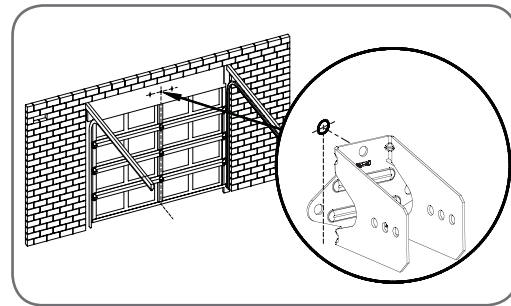

Fig 5.1
- Determine the centre of the door and mark this point on the wall above (Fig. 5.1).